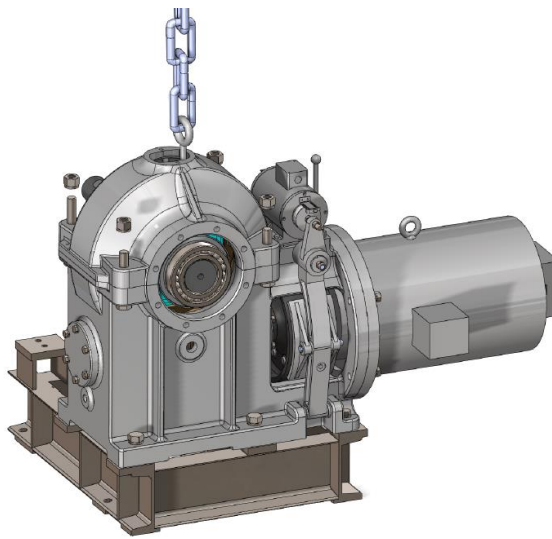

Figure 46 Gear Top Case Removal
6. Install M10 eye bolt on top of housing so it can be hoisted from the machine. Lift the top gear case using lifting equipment, and safely set aside. See Figure 46.
8. Hoist the output shaft assembly from the bottom housing, and lower onto stands. See Figures 46 and 47.